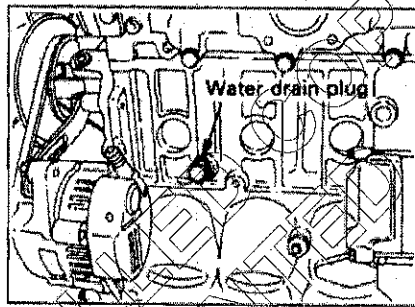

Fig 18 Water drain plug
- (2) Drain away the coolant from the engine by loosening the water drain plug (Fig 18) at the rear of alternator on the left side of cylinder body.